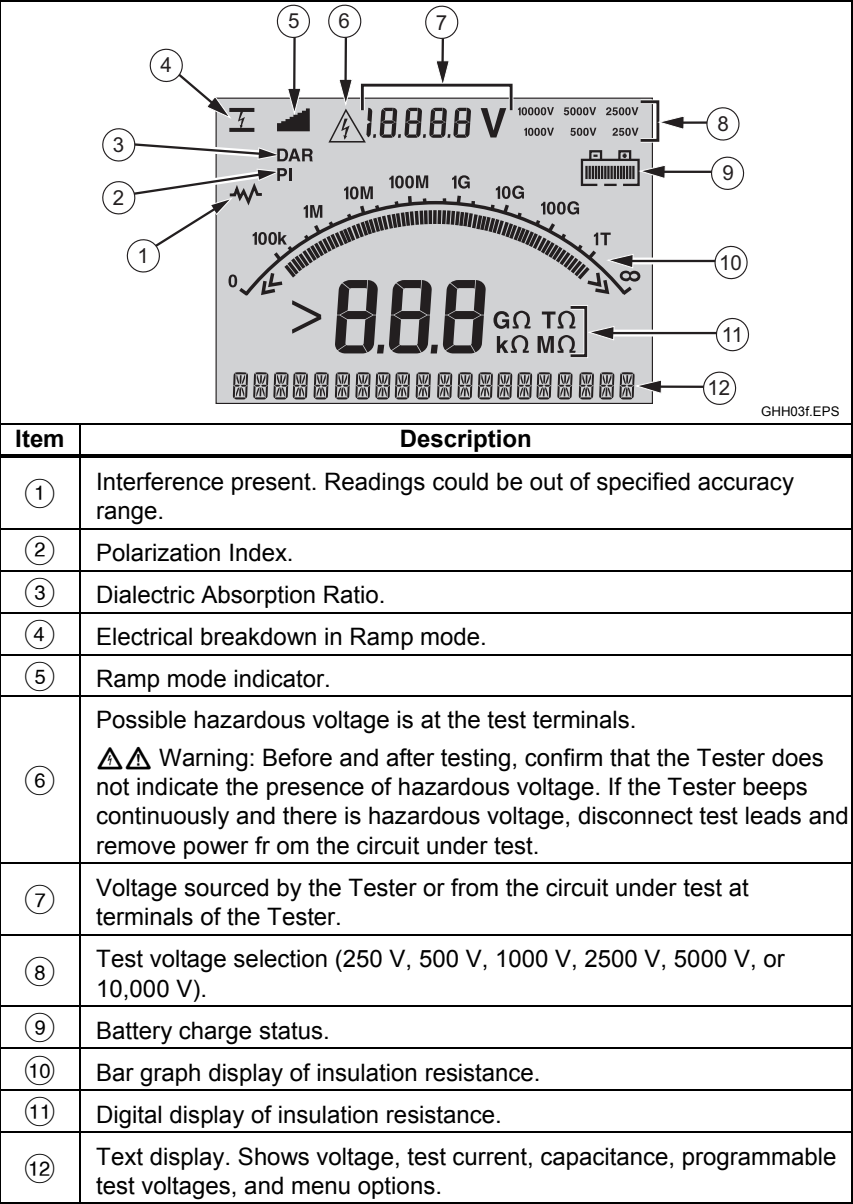

Figure 4. Display Features
Display annunciators are shown in Figure 4.
- Before and after testing, confirm that the Tester does not indicate the presence of a hazardous voltage, see Figure 4. If the Tester beeps continuously and a hazardous voltage is shown on the display, remove power from the circuit under test and disconnect test leads.